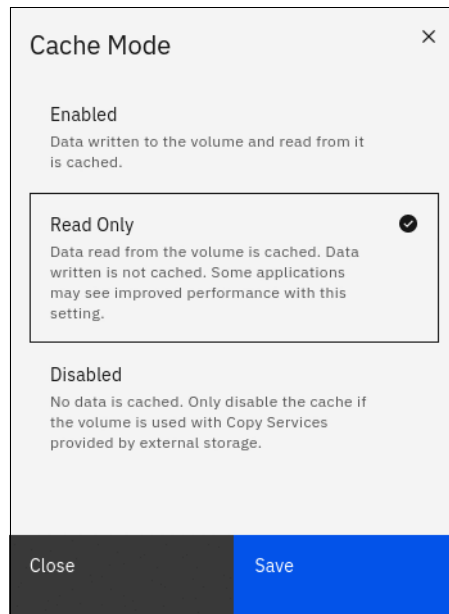

Figure 6-53 Setting the volume cache mode
2. Select the cache mode that you want for the volume from the drop-down list and click **OK**, as shown in Figure 6-53.